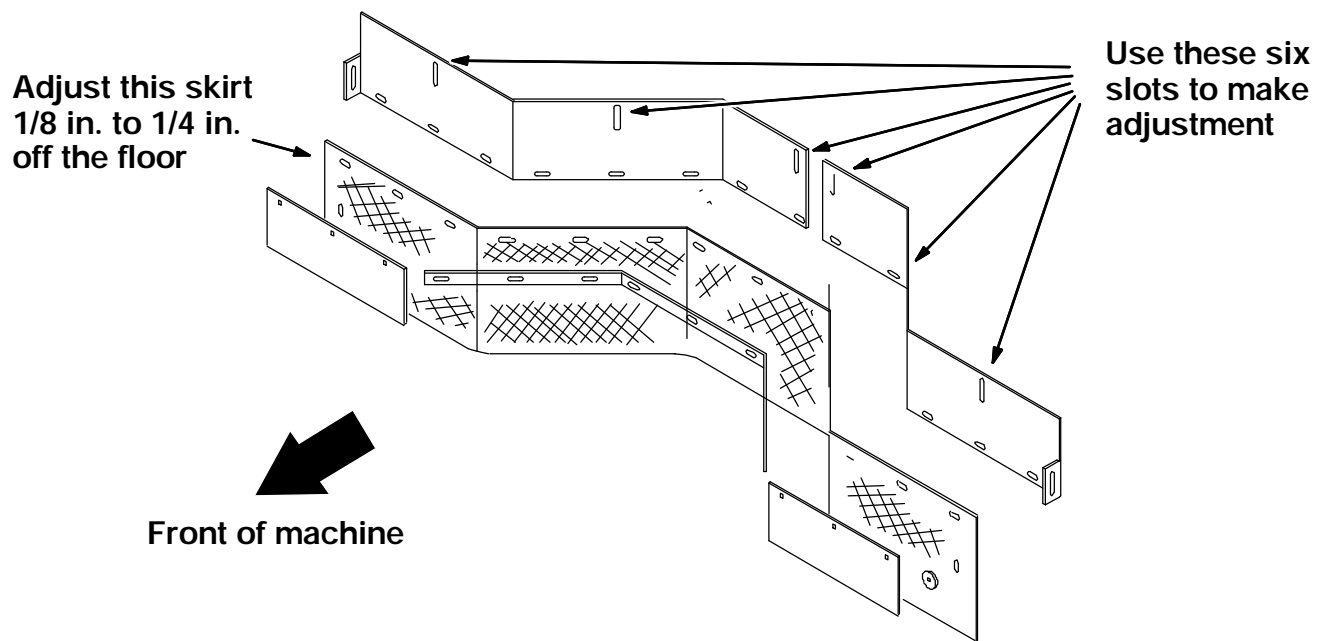

FIG. 10 - Skirt Adjustment
(Refer to Figure 10)
2. The front skirt and baffle assembly should be able to be moved up and down for adjustment at this point. Tighten the hardware in the long slots when the front skirt is adjusted from 1/8 in. to 1/4 in. off the ground evenly across the whole length. (Refer to Fig. 10)
3. The right hand side skirt should also be adjusted from 1/8 in. to 1/4 in. off the ground. Tighten the mounting hardware. (Refer to Fig. 10)
4. Operate the machine in a dusty environment. Check the machine in the area of the seals and SBDC assembly for any signs of dust or air leakage. Add more seal material if necessary. (Refer to Fig. 10)